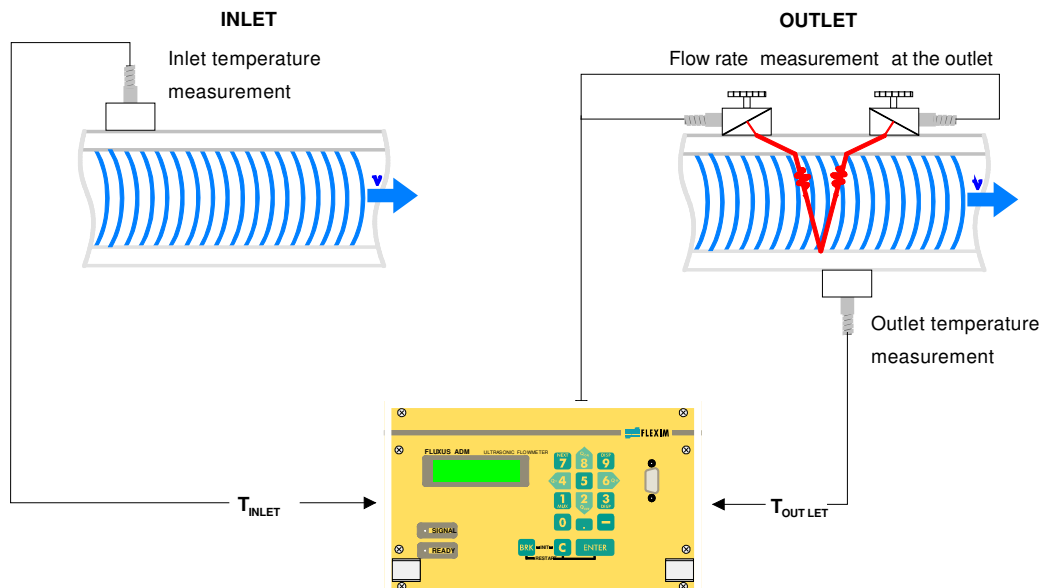

Fig. 17.1: Connection of the flow transducers and temperature probes
- Mount one temperature probe at the inlet and one at the outlet as described in Fig. 17.1.